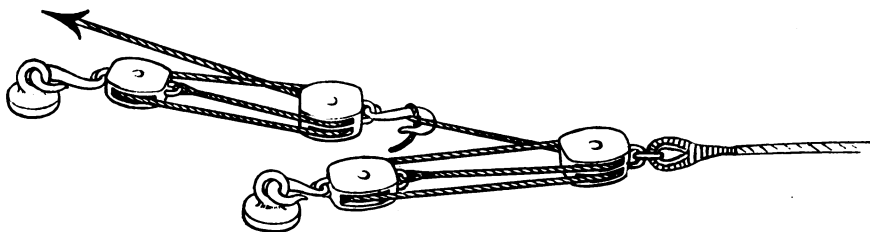

Fig. 184.—Luff upon luff
(10) *Luff upon Luff* (Fig. 184) is a general term used to describe the combined use of two tackles in which the moving block of one is clapped on to the hauling part of the other; its mechanical advantage is the product of the mechanical advantage of each tackle. Fig. 184 shows two luffs rove to advantage and as a luff upon luff whose M.A. = $4 \times 4 = 16$.